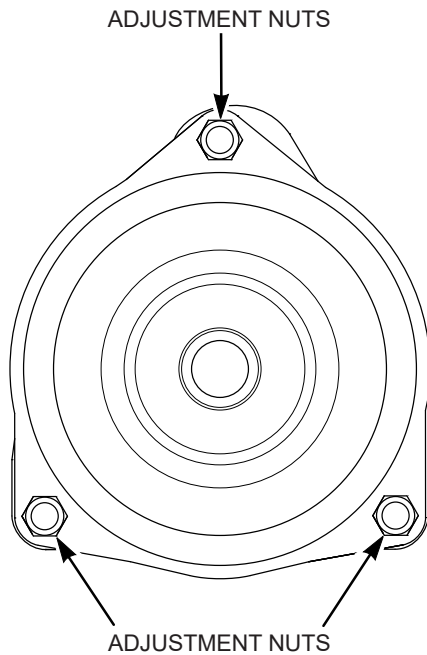

Figure 6-11. Clutch Air Gap Adjustment
When the clutch is disengaged, the air gap between the armature and rotor must be adjusted to fifteen thousandths of an inch, 0.015, for proper operation. The airgap adjustment is made at three bolts on the clutch. There are three inspection windows, one next to each adjusting bolt. See Figure 6-11.
3. Tighten or loosen the adjusting bolt as needed to achieve the 0.015 inch airgap. See Figure 6-11. Perform this operation at all three inspection windows.